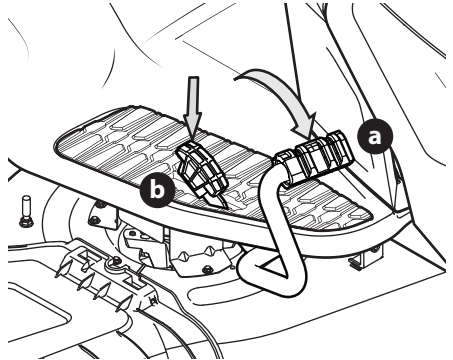

Figure 25
2. To travel FORWARD, slowly depress the forward drive pedal (a) forward until the desired speed is achieved (Figure 25).
3. To travel in REVERSE, check that the area behind is clear then slowly depress the reverse drive pedal (b) until the desired speed is achieved (Figure 25).